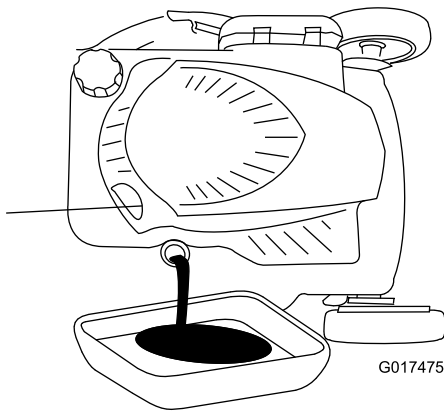

Figure 41
4. Tip the machine onto its side (so that the air filter is up) to drain the used oil from the oil-fill tube (Figure 41).